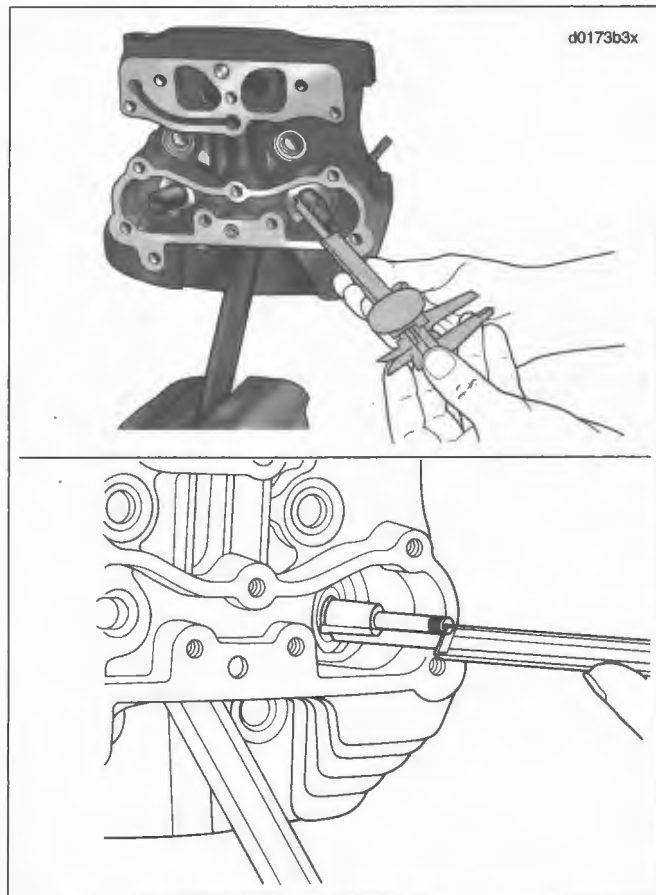

Figure 3-107. Checking Valve Stem Protrusion
2. See Figure 3-107. Measure valve stem protrusion. Seat wear causes the valve stem protrusion to change.